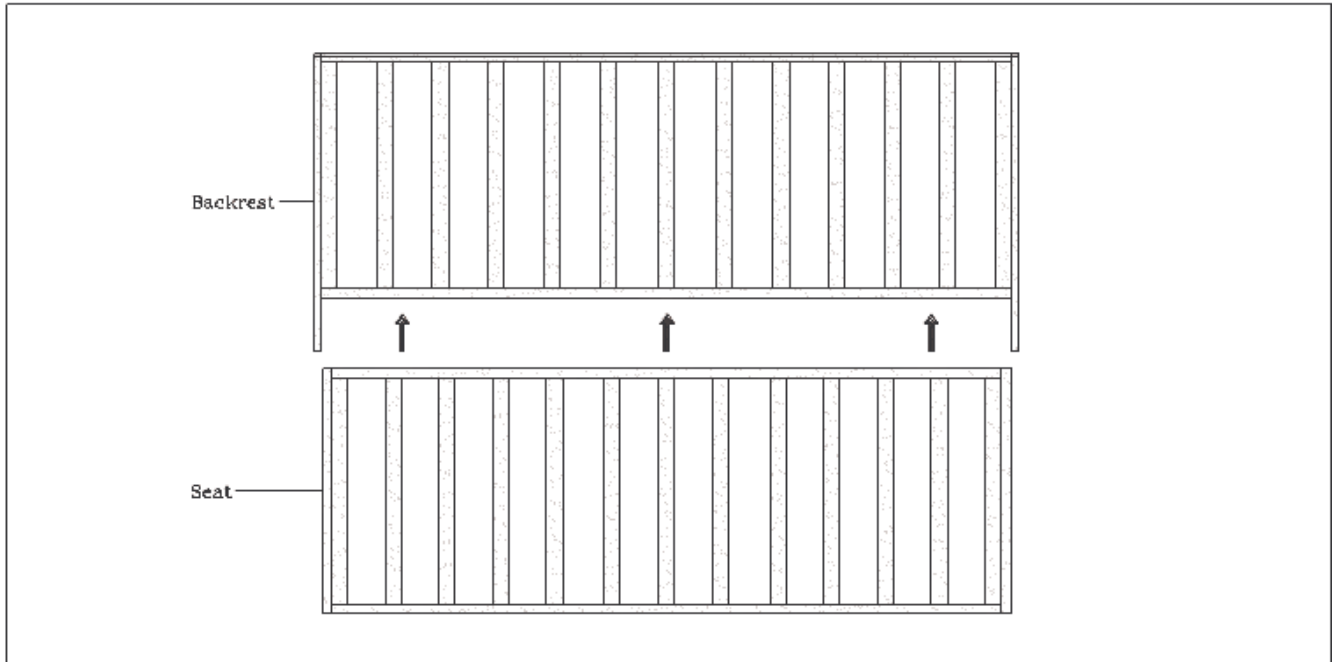

Figure 1
- 2) Locate the backrest (the backrest has a rounded top rail). Locate the seat. With the slats in seat and backrest facing downward, slide the back (holes are nearer the back) of seat between legs of backrest (Figure 1).